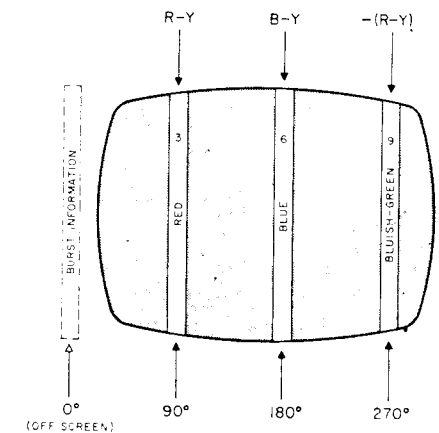

Fig. 3. R-Y, B-Y, -(R-Y).
Step 4. Adjust the receiver's HUE control to display a red, blue, and bluish green bar in this order from left to right (see Fig. 3). If this arrangement cannot be obtained with any setting of the HUE control, then internal adjustment of hue range coil or control is necessary.